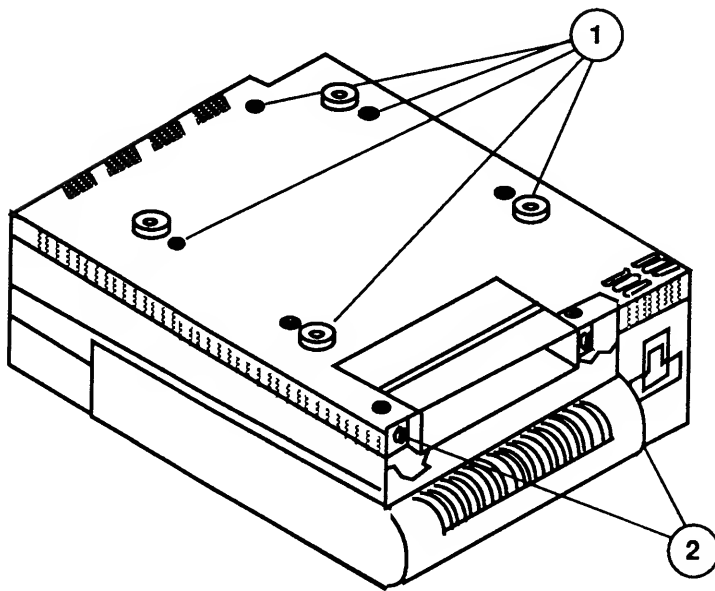

FIGURE 5
3. Remove the seven Phillips screws (Figure 5, #1) that secure the bottom panel to the lower cover. Remove the bottom panel.
2. Remove the two Phillips screws (Figure 5, #2) that secure the shield plate to the lower cover, and remove the shield.